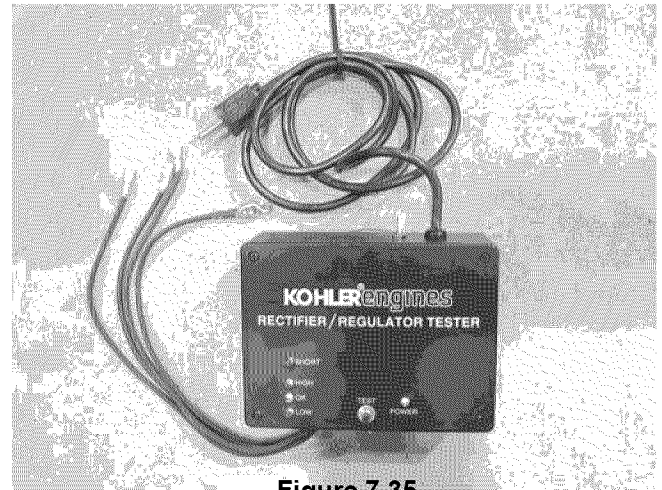

Figure 7.35
- Kohler makes a proprietary Rectifier/Regulator tester (Kohler Part Number 25 761 20 and the up-dated version: 25 761 20-S). This tester works on Kohler regulator / rectifiers and the company claims it works on similar systems from other companies. See Figure 7.35.